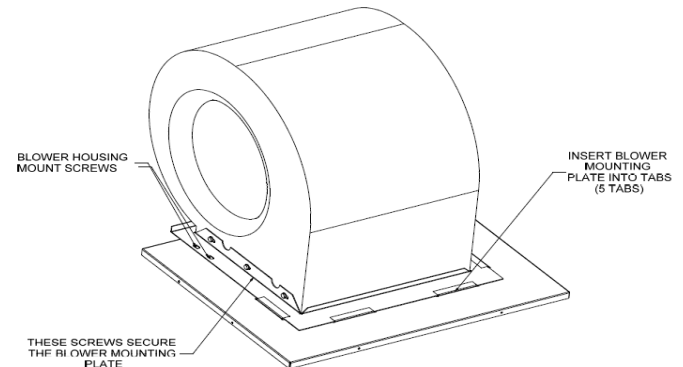

Figure 8: Blower Assembly and Mounting Screw Location
5. Remove the two screws on the right side of the blower mounting plate and slide the blower out of the furnace. Refer to Figure 8.